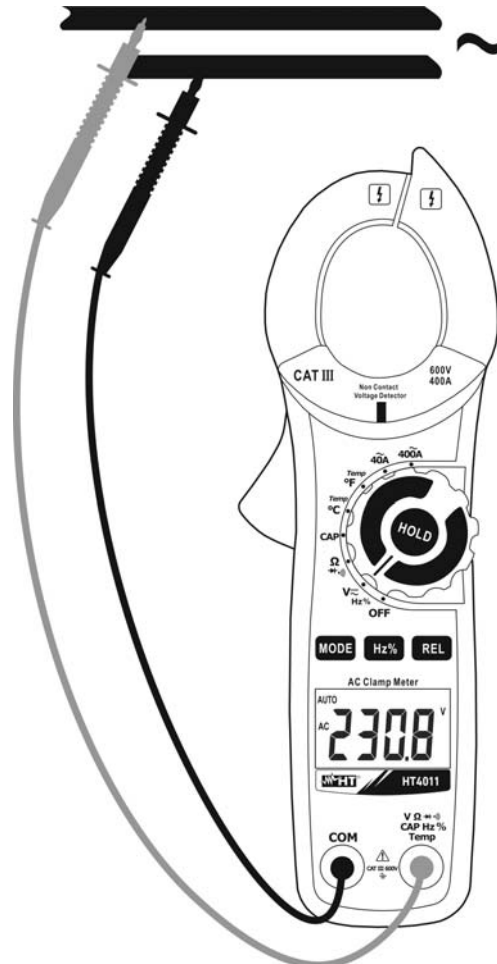

Fig. 3: Use of the clamp for AC voltage measurement
3. Insert the red cable into input terminal **V $\Omega$ ▶▶▶)CAPHz%Temp** and the black cable into input terminal **COM** (Fig. 3).